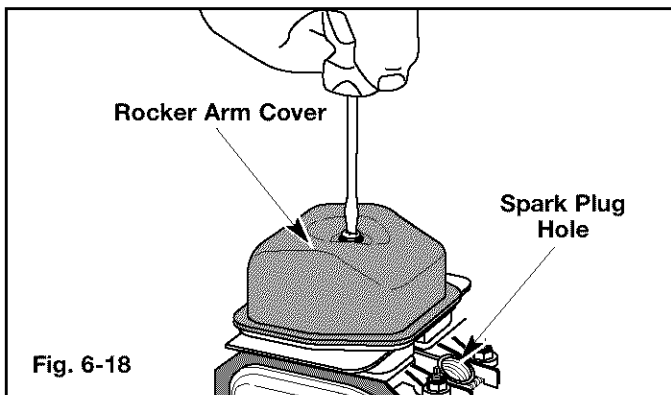

Fig. 6-18
6. Remove the screw holding the rocker arm cover with a large flat blade screwdriver or Torx T25 bit (Fig. 6-18). Remove the rocker arm cover, and gasket.
- While looking in the spark plug hole (Fig. 6-18), the piston is at the top of the stroke.